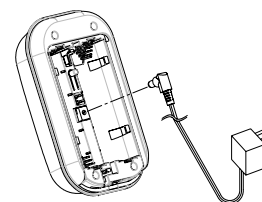

FIGURE 4
**Note:** You can use power adapter instead of batteries. The power adapter is an optional accessory. A cable track is set inside the unit for you to secure the power adapter. A cable track is set inside the unit for you to secure the power adapter. To install the power adapter, connect the plug of power adapter to the DC jack inside the unit. Route the cable along the cable track (FIGURE 4 & 5).